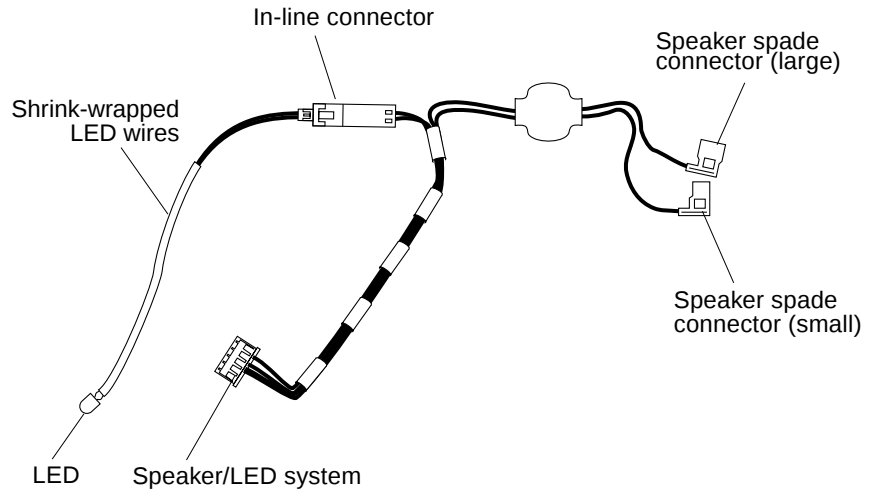

FIGURE 8-5 Speaker/LED Cable Detail
3. Locate the LED at the shrink-wrapped end of the LED cable and the in-line connector (FIGURE 8-5).